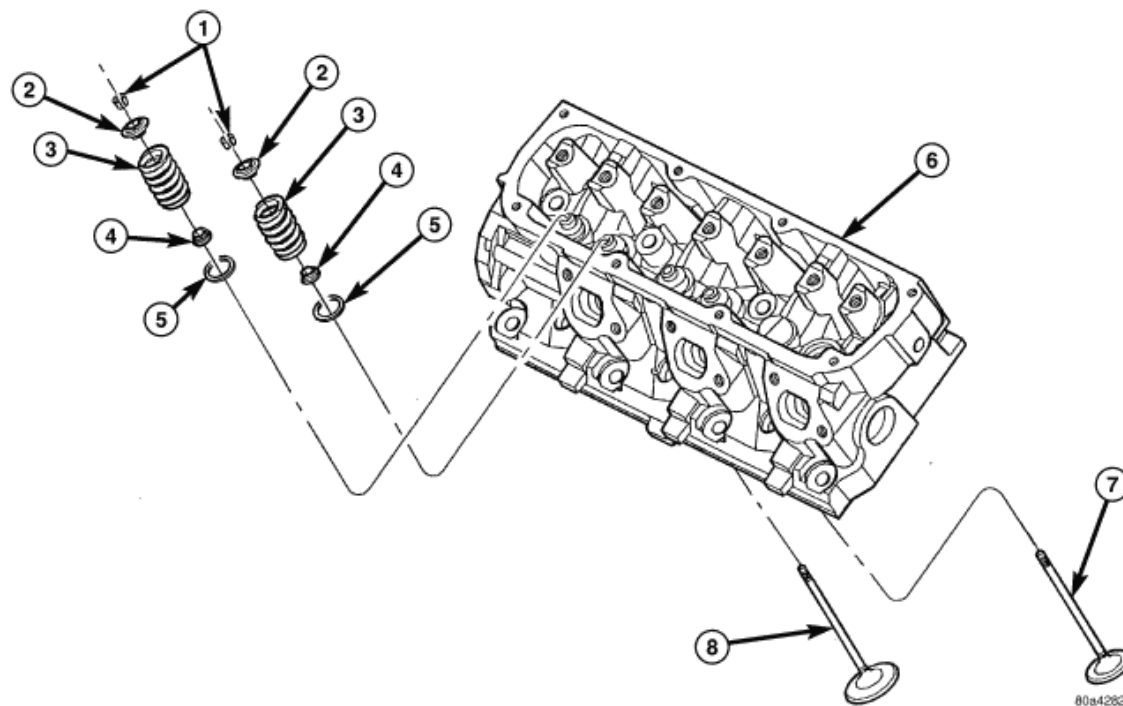

Fig. 94: Exploded View Of Spring Seats & Cylinder Head
2. Remove valve retaining locks. See **Fig. 94**.